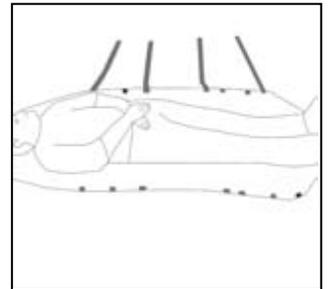

Fig. 8
- Lift sides of the device and fasten the four cross straps to buckles directly opposite the straps (fig. 8).